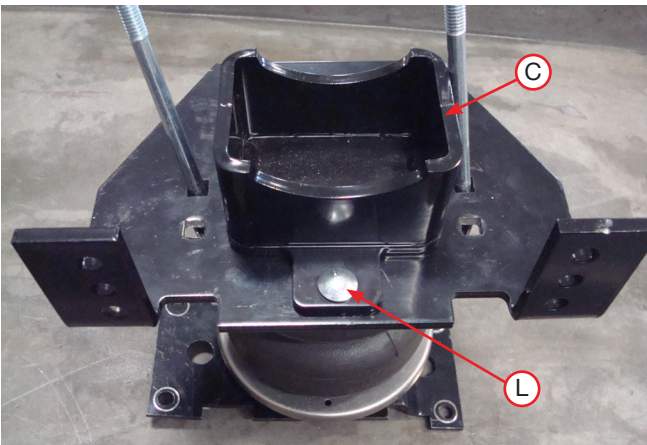
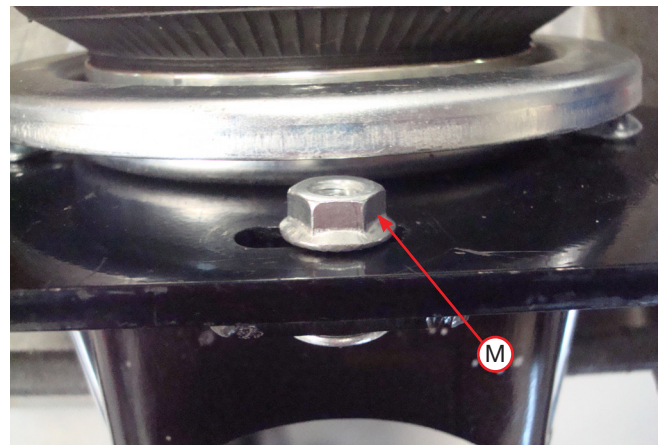

Fig. 13
Fig. 14
- Install the lower bracket cup (C) onto the lower bracket main plate using the 5/16"-18 x 3/4" carriage bolt (L) (Fig. 13). Cap with 5/16"-18 serrated flange lock nut (M) (Fig. 14) Snug bolt down but leave loose enough for bracket to move freely in slot.